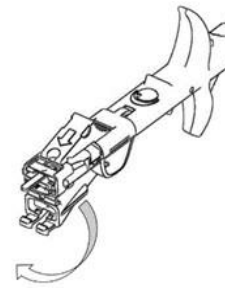

Fig. 4
6. Carefully release the cartridge nozzle from the hook. Make sure you do not damage the nozzle tip. Fold up the cartridge nozzle by 180 degrees until it snaps into place, as shown in Fig. 4.